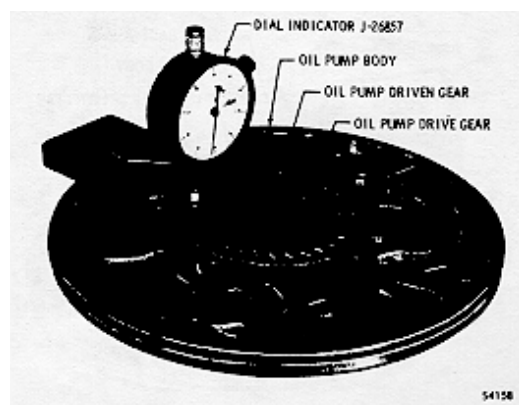

Fig. 6-35. Dial indicator check of oil pump drive gear end clearance
(13) Slide the indicator to the drive gear (fig. 6-35). While holding the indicator in position, rotate the gear 360° and record the reading. Move the indicator 90° and record the second dial reading. Repeat the procedure and record the dial readings at each 90° point until four readings have been taken.